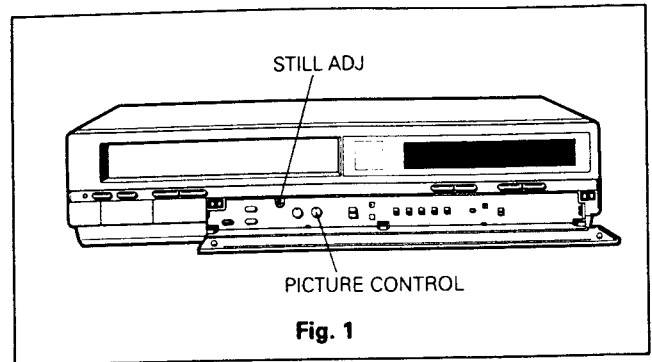

Fig. 1
- A. As shown in Figure 1, remove the four screws (A, B, C and D), two on each side, retaining the top cover.
Rotate the picture control knob, located as shown in Fig. 1, to achieve the desired picture quality.
There are some cases where the picture bounces vertically in the STILL mode when VIDEO CASSETTE was recorded on another VCR. In such a case, adjust the still knob, located as shown in Fig. 1, until bouncing stops.